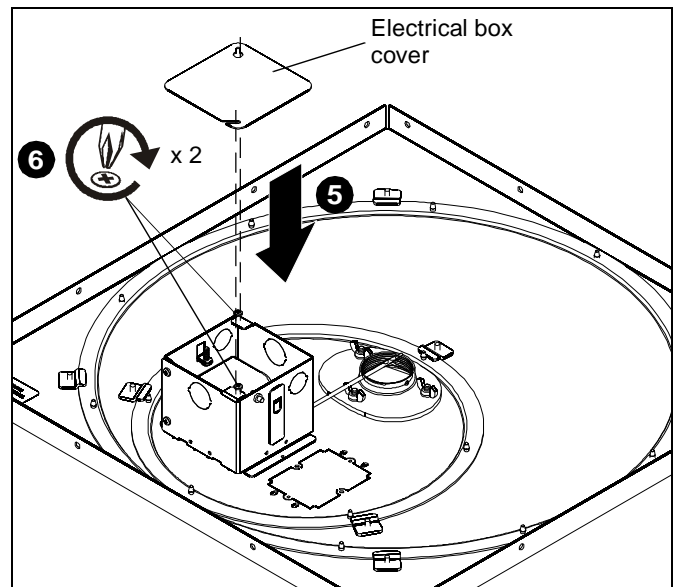

Figure 8
- Replace the electrical box cover. (See Figure 8)